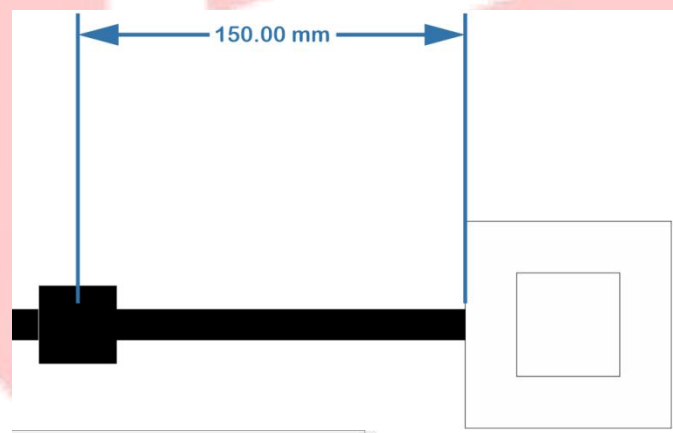

Figure 5: Distance between node and pick-up and DEPOSIT ZONE.
- The distance between the node and pick-up or DEPOSIT ZONE is: 15cm. Refer to Figure 5.